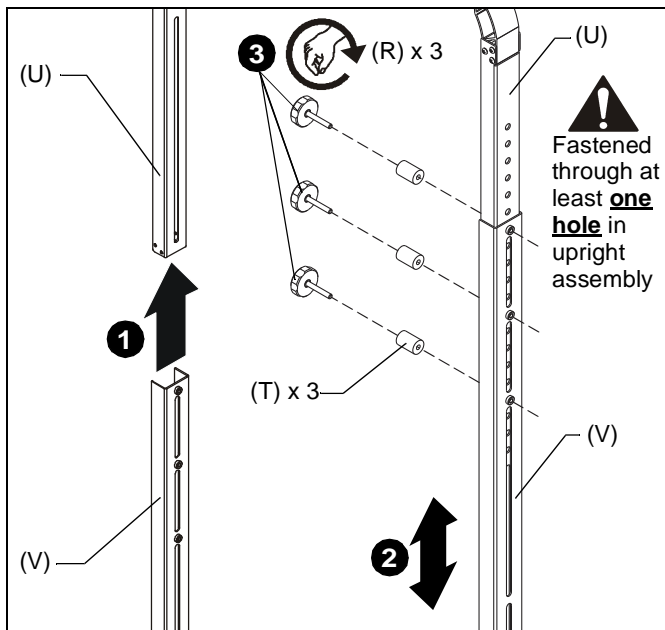

Figure 1
1. Slide adjustable leg (V) up over bottom of upright assembly (U). (See Figure 1)
2. Adjust leg (V) as necessary to set the correct length of entire leg assembly. (See Figure 1)
3. Fasten adjustable leg (V) in place using three knobs (R) and three 1-1/8" spacers (T). (See Figure 1)